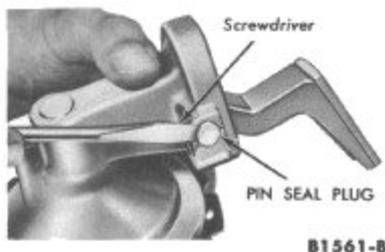

FIG. 36—Rocker Arm Pin Seal Plug Removal or Installation
4. Remove the rocker arm pin seal plug (Fig. 36).
2. Align the rocker arm pin holes by applying slight pressure on the diaphragm spring, then install the rocker arm pin (Fig. 36).